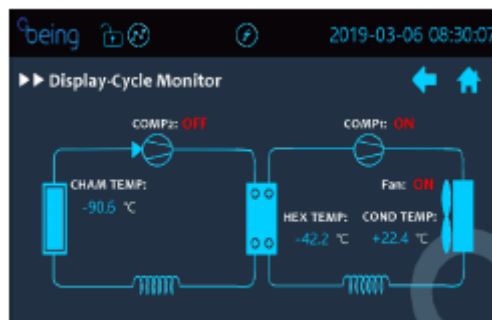

Figure 1-31.
5. Touch the “Cycle Monitor” button from the display page to enter the Cycle Monitor page, as shown in Figure 1-31.